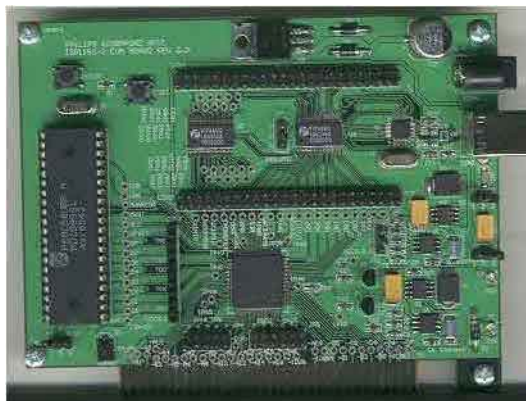

Fig 1. ISP1183 eval board.
Evaluation of ISP1183's features, and development of its firmware and product prototype can be easily done with this setup. Fig 1 shows the ISP1183 evaluation (eval) board.
- ISP1183 eval board (see Fig 1).